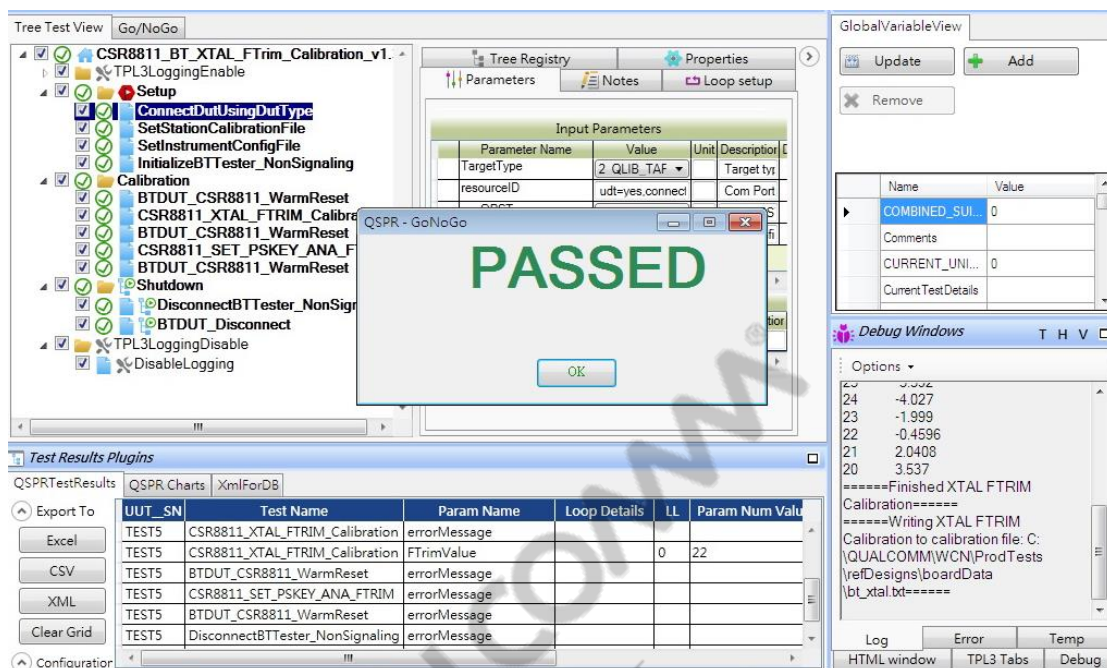

Figure 10 QSPR Passed message
- Run QSPR. The PASSED message appears if QSPR is successful as shown in Figure 10.